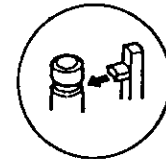

Figure 1-64.
1. Use care not to deform the parts hooked to the slow brake shaft-cap, take-up loading gear, and supply loading gear as shown in Figure 1-64.